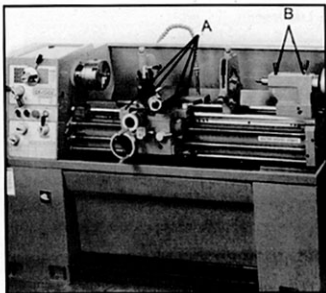

Fig.6
8. **Carriage**-lubricate four oil ports(A, Fig.6) with 20W machine oil once daily.
9. **Tailstock**-lubricate two oil port(B, Fig.6) with 20W machine oil once daily.